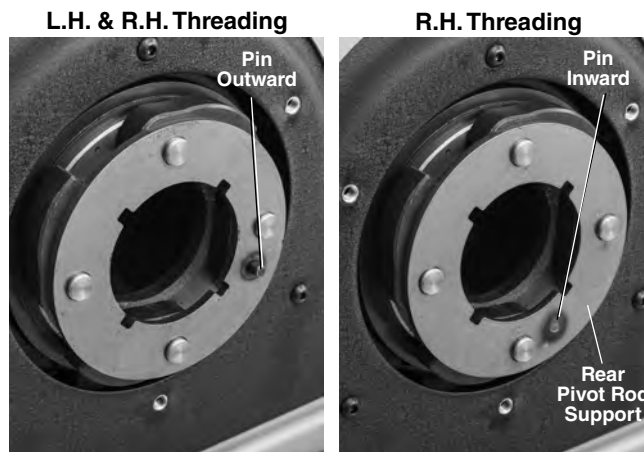

Figure 25B – Rear Pivot Rod Support - Pin Placement
- Remove E-clips and rear pivot rod support (*Figure 25B*).
- Position the rear pivot rod support so that pin faces outward and reinstall (*Figure 25B*).
- To convert back to Right Hand threading only, turn over the rear pivot rod support so that pin faces inward and reinstall (*Figure 25B*).